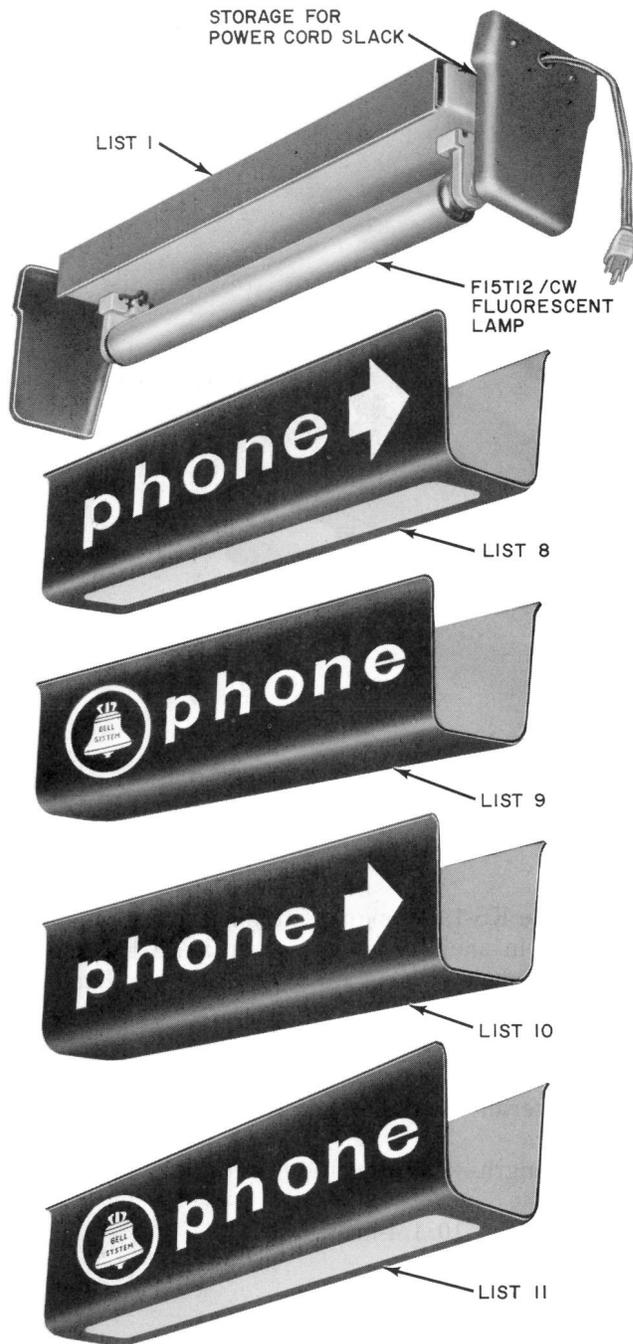

Fig. 5—KS-16422 Illuminated Sign Showing Optional Lenses
- (a) KS-16422, List 1 sign (Fig. 5).
(d) KS-16422, List 8 dome (Fig. 5)
(e) KS-16422, List 9 Dome (Fig. 5)
(f) KS-16422, List 10 Dome (Fig. 5)
(g) KS-16422, List 11 Dome (Fig. 5)